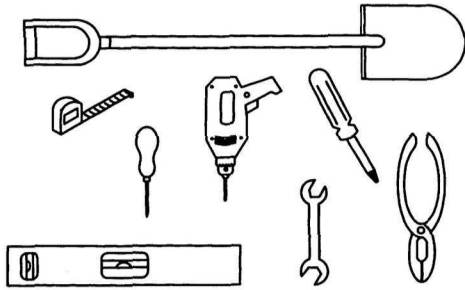

FIG. 1
1. **WEATHER WARNING ! DO NOT ERECT YOUR BUILDING ON A WINDY DAY. ANY BUILDING LEFT PARTIALLY CONSTRUCTED MAY BE SERIOUSLY DAMAGED (Fig. 1).**
3. **ALL ASSEMBLY OPERATIONS MUST TAKE PLACE ON A COMPLETELY LEVEL SURFACE (Fig. 1)**
## LES PIÈCES POUVANT ÊTRE ENDOMMAGÉES (FIG. 1).
3. **TOUTES LES OPÉRATIONS DE MONTAGE DOIVENT ÊTRE RÉALISÉES SUR UNE SURFACE PLANE (fig 1).**